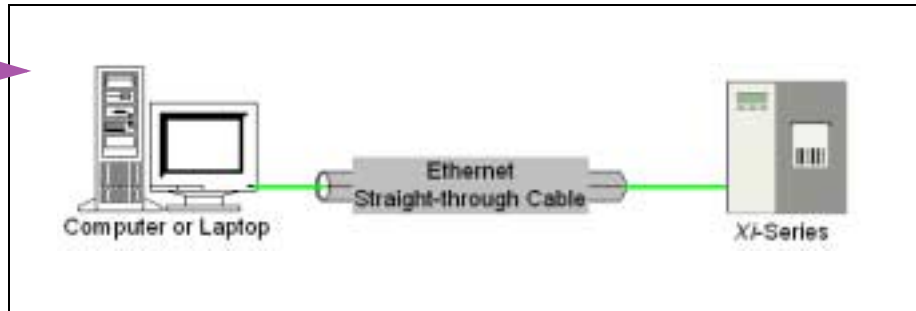

Figure 1 • Straight-through cable environment
- If you are connecting your printer to a computer or laptop, complete the callout illustration step in *Figure 1* below.